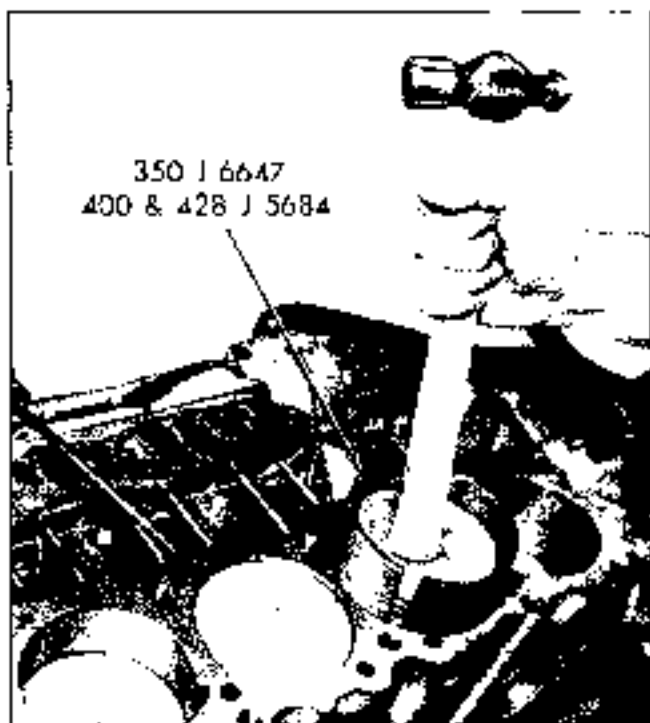
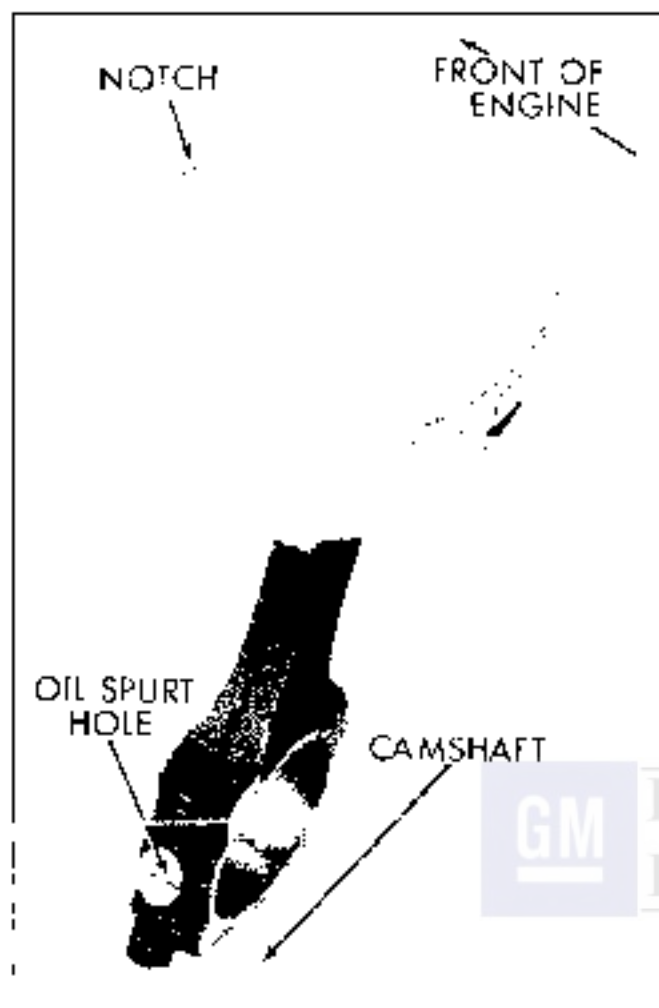

Fig. 6-114 Installing Piston Assembly
Fig. 6-121 Piston and Rod Assembly
2. Using J 6647 or J 5684 (Fig. 6-114) ring compressor, insert piston and connecting rod assembly into cylinder so that notch in top of piston is toward front of engine. Be certain oil squirt hole (Fig. 6-121) in connecting rod is toward camshaft.
Measure the piston skirt perpendicular to the piston pin boss (piston pin removed) and at sizing point indicated in Fig. 6-114.
There is a notch cast in the top of all piston heads to facilitate proper installation. The piston assemblies should always be installed with notch toward front of engine. Position rod in piston so that oil squirt hole (Fig. 6-121) is toward camshaft.